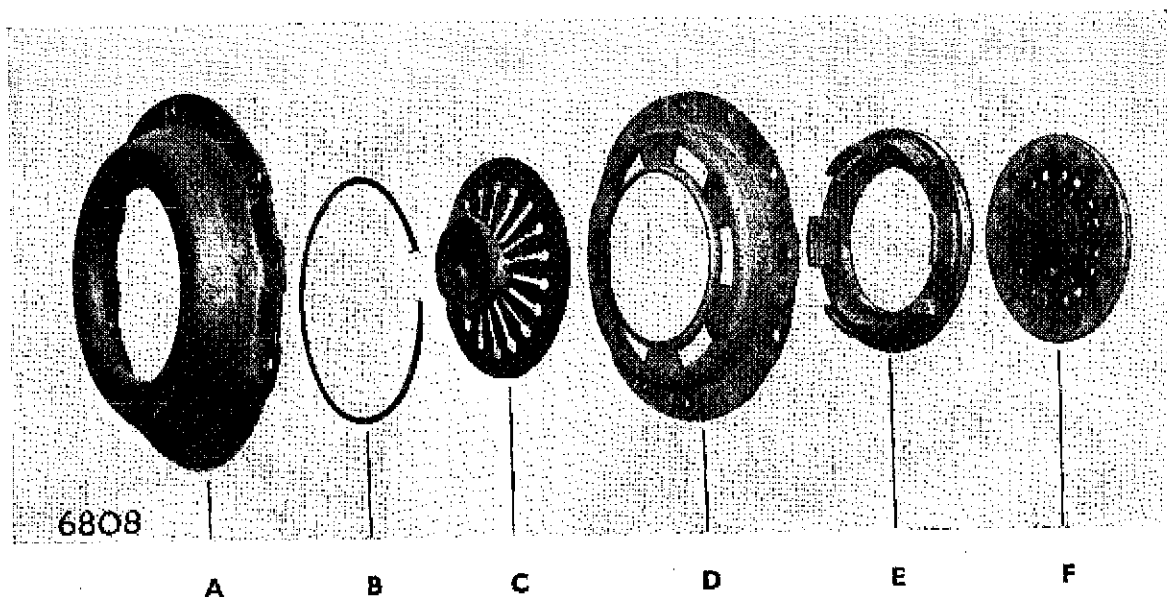

Fig. 6. Exploded view of clutch assembly
CLUTCH ASSEMBLY AND DRIVEN PLATE**To remove and refit (See Fig. 6)**
1. Apply a trace of grease (preferably molydisulphide or zinc base), Shell Retinax AM, is suitable, to the sides of the pressure plate lugs, fulcrum points for the diaphragm spring on the pressure plate, driving plate, cover and also to the finger-tips where they enter the release tube. (See Fig. 6, A to E.)
4. Fit diaphragm spring assembly, securing with the retaining ring. If the original diaphragm is fitted, ensure that it is located in the marked position. When fitting a new diaphragm (C) or a new pressure plate (E) the unit must be assembled and the diaphragm (C) depressed a few times, using a press and checked for run out with a clock gauge on the thrust pad. Reposition the diaphragm and check. Repeat until minimum run out is obtained. Maximum permissible run out on any clutch .025" (.65 mm.) on the thrust pad.
The cover (A) and driving plate (D) MUST NOT be interchanged but kept together as a set. When fitting the ring (B) it is important its "turned-up" ends are uppermost, and positioned midway between the pressure plate lugs. (See Fig. 6.) After fitting retaining ring press this firmly into each retaining groove.